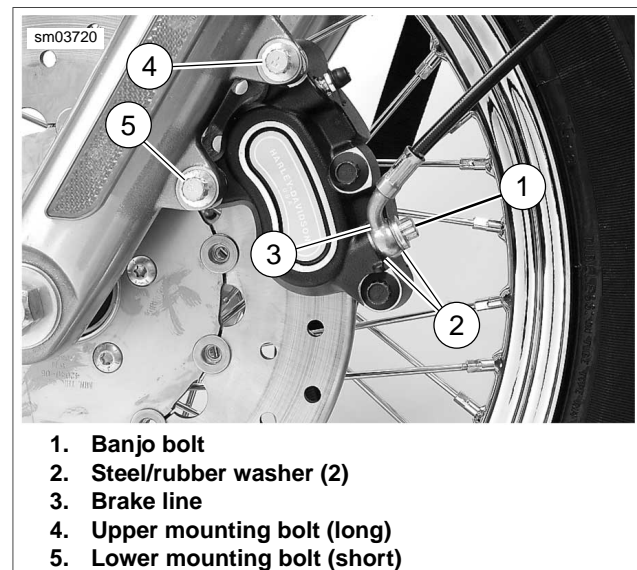

Figure 2-73. Front Caliper
1. See Figure 2-73. Attach caliper to fork leg.
- b. Loosely install long mounting bolt (4) (metric) into top hole on fork leg.
- c. Install short mounting bolt (5) (metric) into bottom hole on fork leg. Tighten bottom mounting bolt to 28-38 ft-lbs (38.0-51.5 Nm).